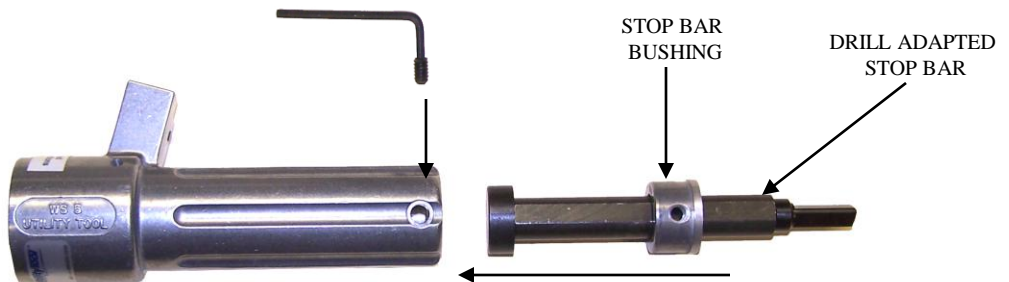

Fig. 3
Step 3 (Fig. 3) Remove the stop bar bushing from the graduated stop bar and place onto the drill adapted stop bar. Insert the drill adapted stop bar with stop bar bushing into the body of the tool. Align the set screw with the stop bar bushing, adjust the conductor length required and tightened down the screw.